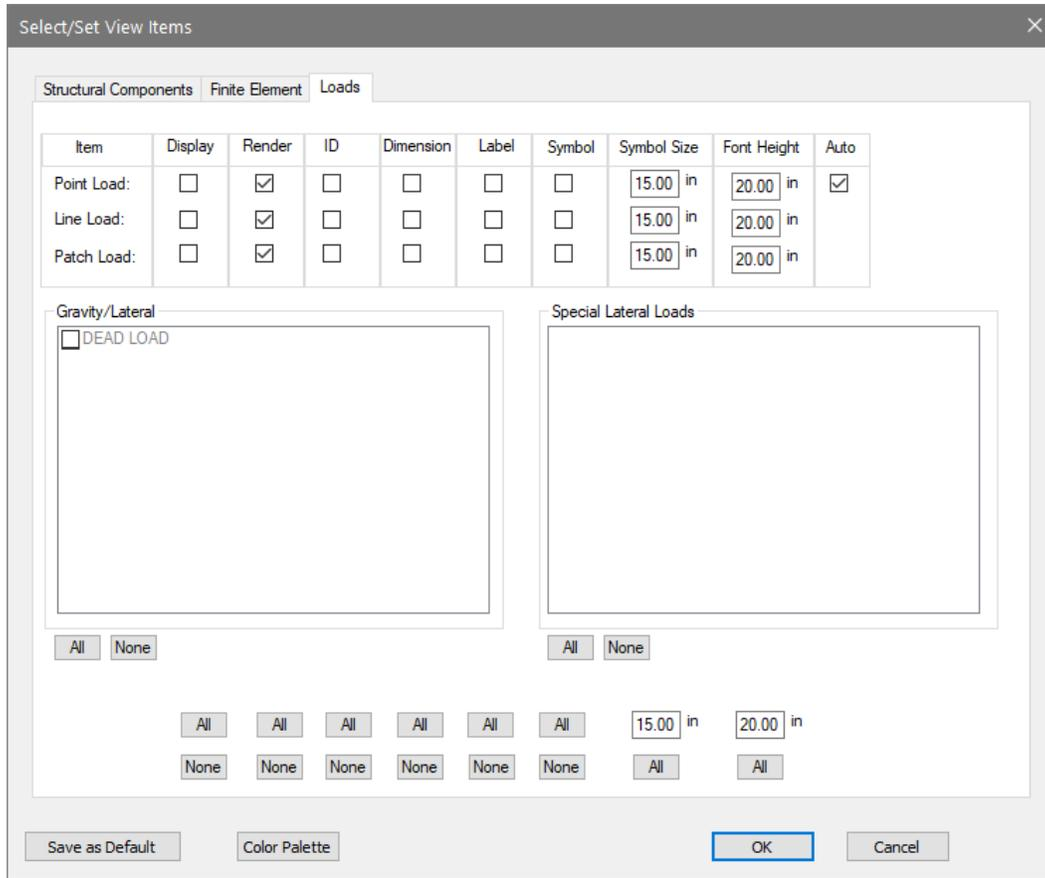

Figure 4-9
- Unselect the display of the loads by unchecking the display boxes as shown in **FIGURE 4-9**.